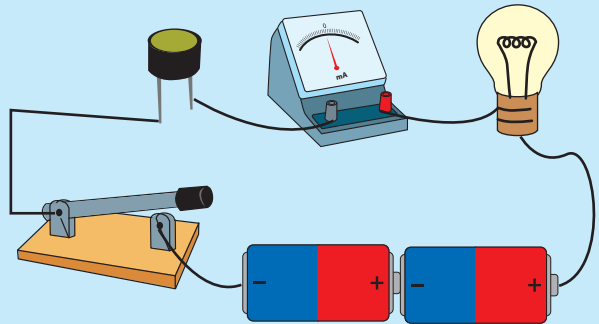

Figure 10.28 ▲
- Construct the circuit connecting the bulb, the milliammeter, the light dependent resistor, the switch and the dry cells as shown in Figure 10.28.